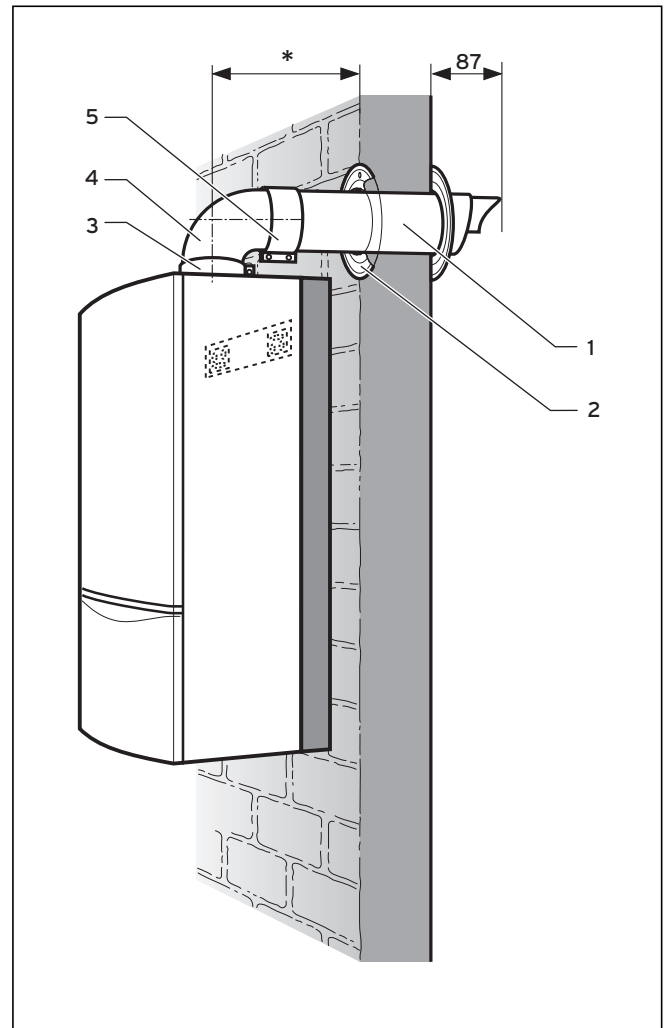

Fig. 2.12 Assembly of the boiler
- Push the air/flue duct assembly (1) including the flexible external seal through the wall until the seal clears the outside face of the wall and pull air/flue duct back towards the boiler until the external seal touches the outside wall (fig. 2.12 and fig. 2.16).
- Ensure that the air/flue duct (1) is centred in the hole and the terminal is correctly positioned with the inlet grille at the bottom (fig. 2.12 and fig. 2.16).
- Slide the internal trim ring (2) over the air duct until it is flush with the wall (fig. 2.12).
- Fit the elbow (4) to the boiler by inserting the spigot of the flue elbow into the flue socket on the boiler and
secure using the 30 mm air duct clamp (3) provided (fig. 2.12).
- Fit the 48 mm air duct clamp (5) ensuring that it is positioned centrally (fig. 2.12).